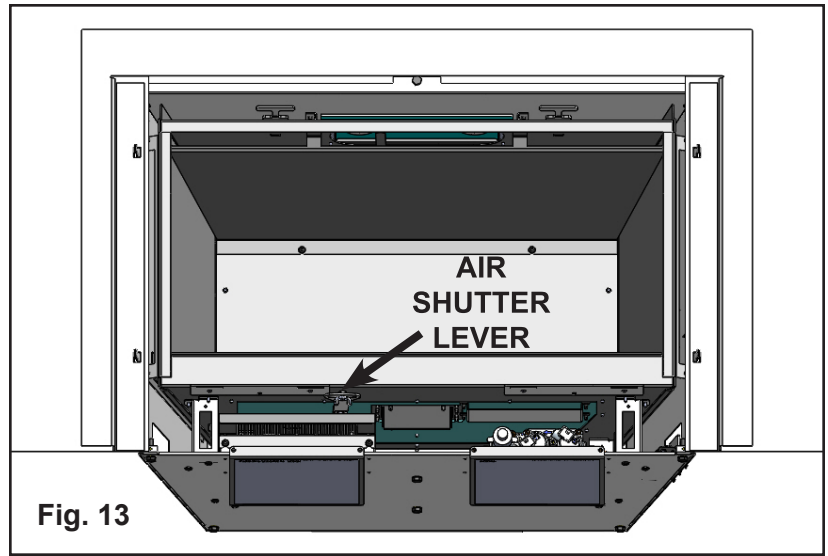

**Fig. 12**
3. Reposition the restrictor tab into one of the x3 slots in the restrictor index plate to obtain desired flame. **(Fig. 12)**